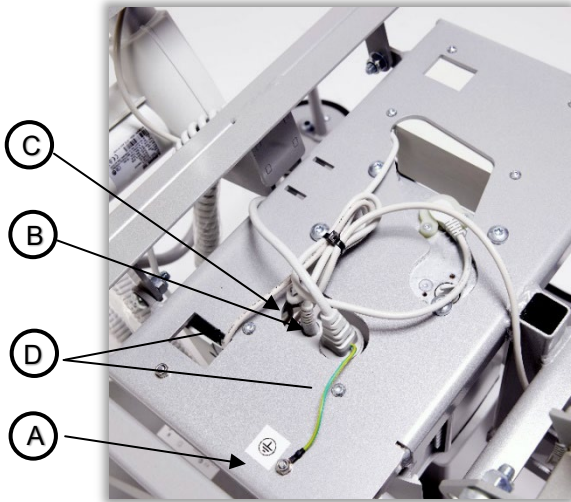

FIGURE 3. TOP FRAME
5. Undo the bolt (A) that holds the earth point cable (Figure 3).
7. Disconnect the two cables from the top of the control box (**Figure 3**) (power supply cable (**B**) and battery (**C**)).
8. Once disconnected, undo the two bolts (**D**) head screws (**Figure 3**).